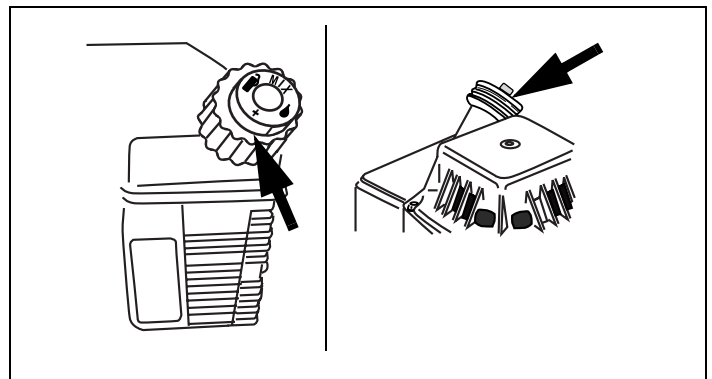

Figure 16. Optional Air Vents
2. Close air vent screw on fuel fill cap, if present (see equipment manufacturer's instructions). See Figure 16.